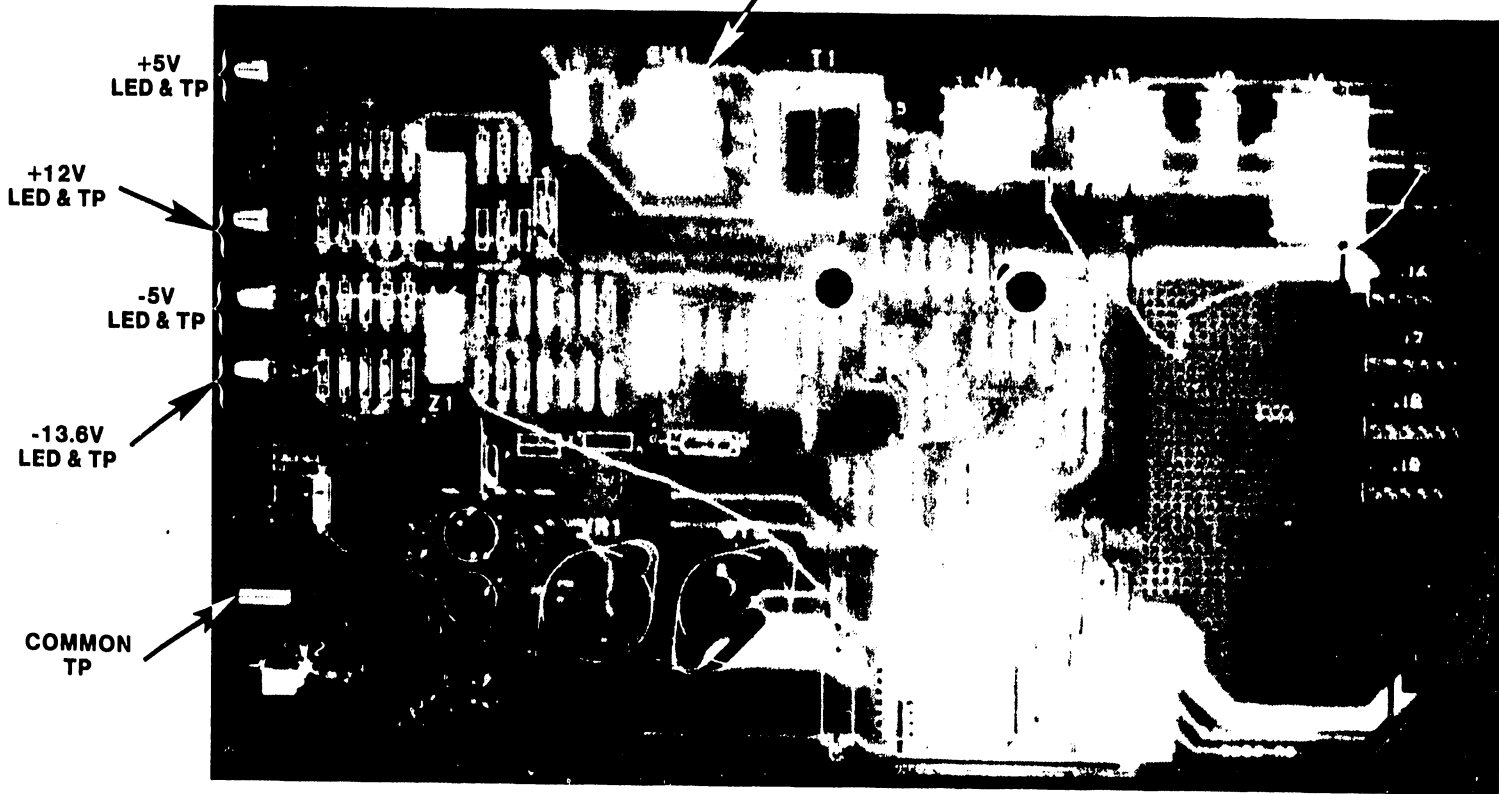

Figure 4-7. 210-8250 Power Controller Board
2. Make sure the 115/230V Line Select Switch on the 8250 Power Controller board (figure 4-7) is in the 115 vac position for ALL systems. (Check which switching power supply is installed in the system. If it is a Powertec supply, it also has a 115/230V Line Select Switch. Check the rear of the supply to make sure the switch is in the 115 vac position. This applies to ALL systems.)
1. The following voltages should be checked at the 8250 Power Controller board test points (figure 4-7).